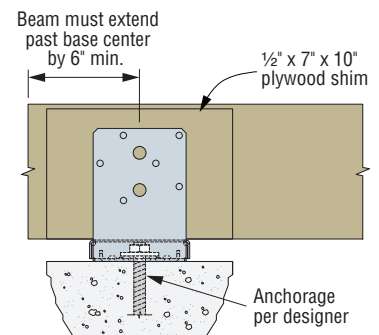

Figure 4 — ABU with Beam Installation
- For applications involving the use of a post base to support a wood beam, refer to p. 70. (Figure 4)